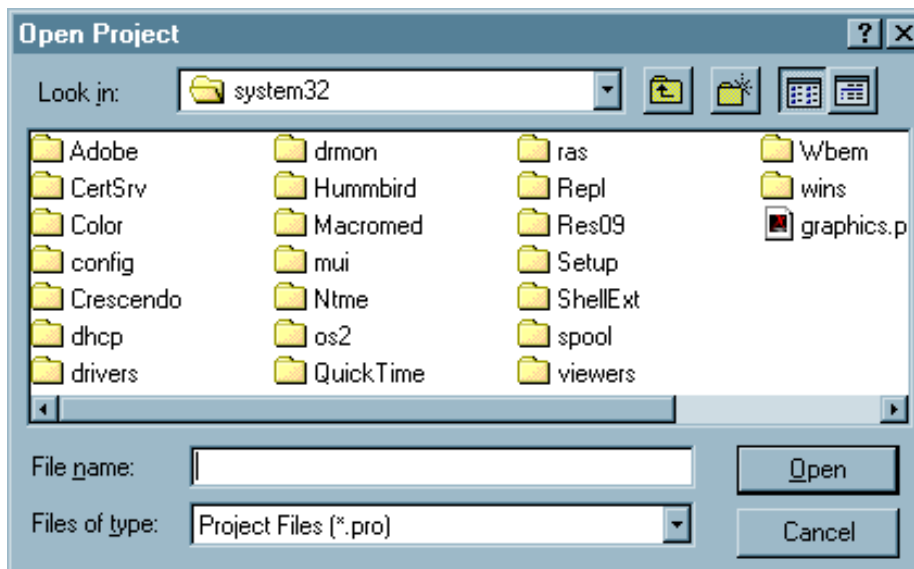

Figure 3. Open Project Dialog Box
4. Select Open Project from the File menu. The Open Project dialog box appears. See Figure 3 (example only).